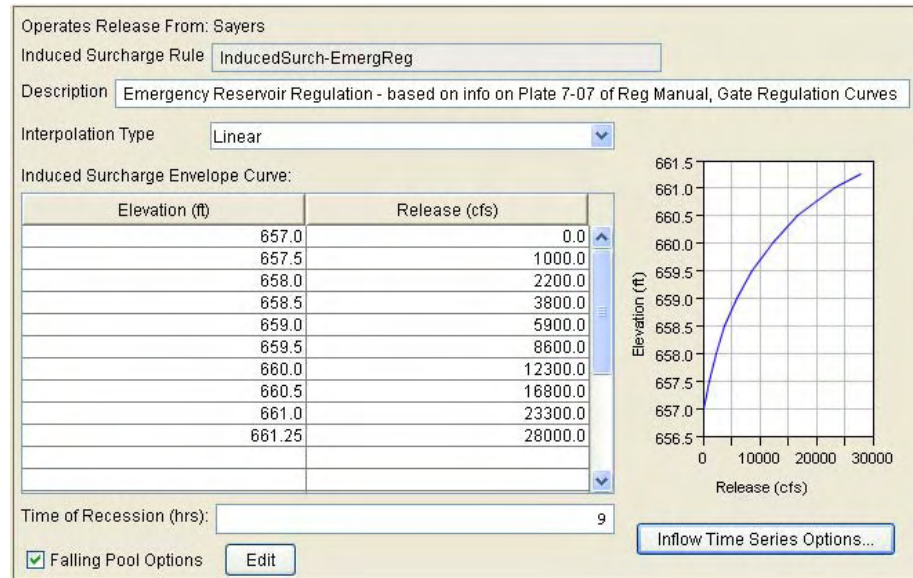

Figure 11.23 Induced Surcharge Rule Editor
Within the **Induced Surchage** rule editor (Figure 11.23), the **Induced Surchage Curve**, **Time of Recession**, and **Falling Pool Options** determine the magnitude and duration of gate-regulated releases, and how emergency release should transition back to normal flood control releases. The mini-plot will reflect the **Elevation** vs. **Release** values you enter for the Induced Surchage Envelope and can be viewed in full size when you double-click on it.
1. Highlight the appropriate rule in the operations tree to access the **Induced Surcharge** rule editor (Figure 11.23). The name and description of the rule will appear in the **Induced Surcharge Rule** and **Description** fields.